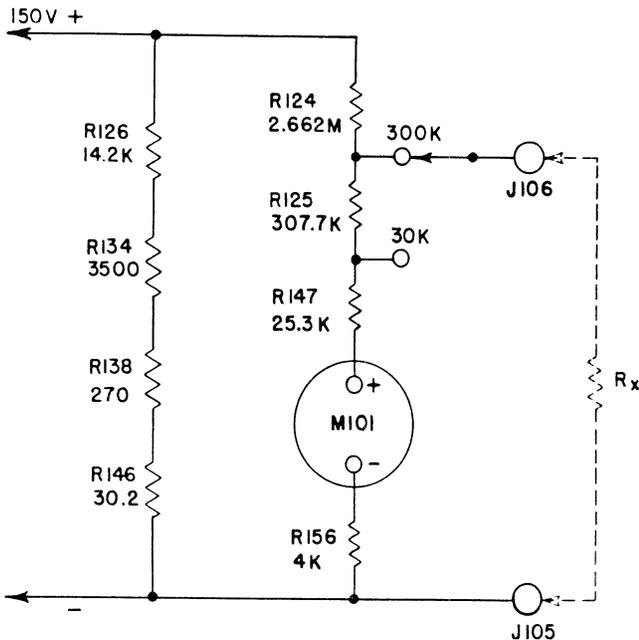

Figure 2-13. Simplified High Range Ohmmeter Circuit
- Setting the FUNCTION selector for OHMS and the RANGE selector at either of the high resistance ranges sets up a circuit illustrated by Figure 2-13.